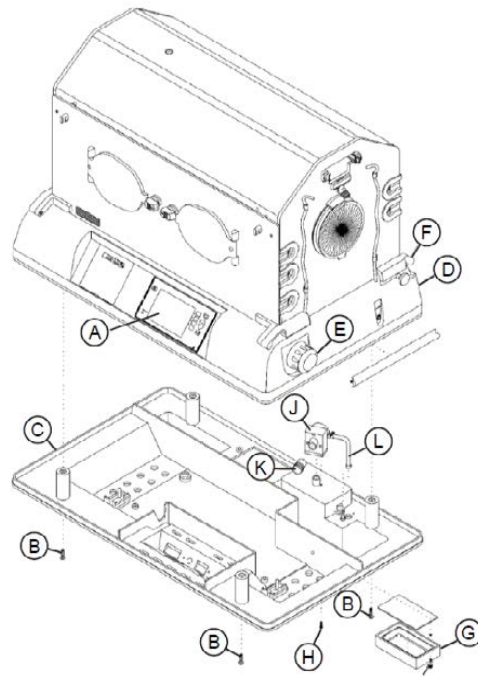

Fig. 47 Upper Shell Assembly
- 23** Remove and retain the four Nylok® screws (Fig. 47/B) that secure the shell bottom (Fig. 47/C) to the upper shell assembly (Fig. 47/D).
- 25** Stand at the same end of the upper shell assembly (Fig. 47/D) as the controller (Fig. 47/A) and perform the following:
- Using the mattress tilt knob (Fig. 47/E) and the rear hood hinge (Fig. 47/F), lift the upper shell assembly (Fig. 47/D) enough to access the corrugated hose (Fig. 47/K) at the fresh air valve (Fig. 47/J).
- Using pliers, disconnect the corrugated hose (Fig. 47/K) from upper shell assembly.
- Carefully remove the upper shell assembly (Fig. 47/D) from the shell bottom (Fig. 47/C) and place it upside down on a flat, padded surface.